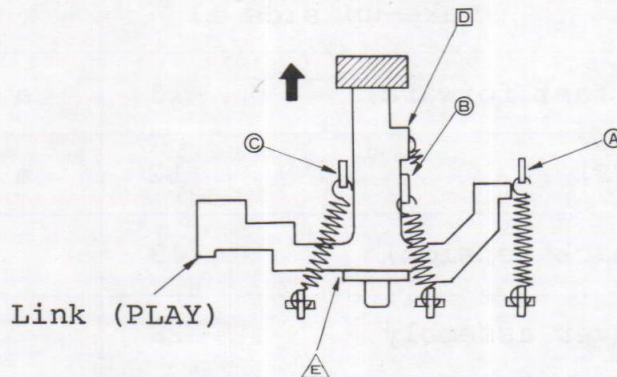

Fig. 10
- Remove the springs below the flywheel (from the back side) at (A), (B) and (C) shown in Fig. 10.
- As a separate spring is provided in D below the spring that has been taken off at (B), remove it at D.
- (c) After removing the 4 springs in (b), remove E by pushing the link (PLAY) shown in Fig. 10 in the direction of the arrow and then remove the link (PLAY).